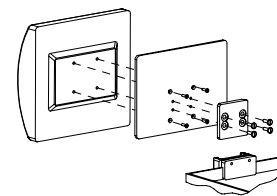

FIGURE 4
5. Attach the painted Plate and Slide to the rear of the Octanet, using the (4) #6-32 x 7/16" flat head machine screws and (4) #10-32 x 5/8" BHMS screws provided. (Fig 4)